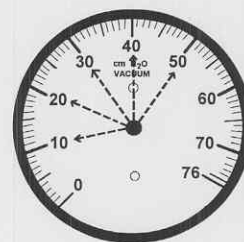

Figure 3-4. Vacuum test values.
(14) Turn the vacuum regulator knob clockwise until the calibrator-analyzer indicates 10, 20, 30, 40, and 50 cm H₂O while observing and recording the drainage unit vacuum gauge indications. Refer to figure 3-4.